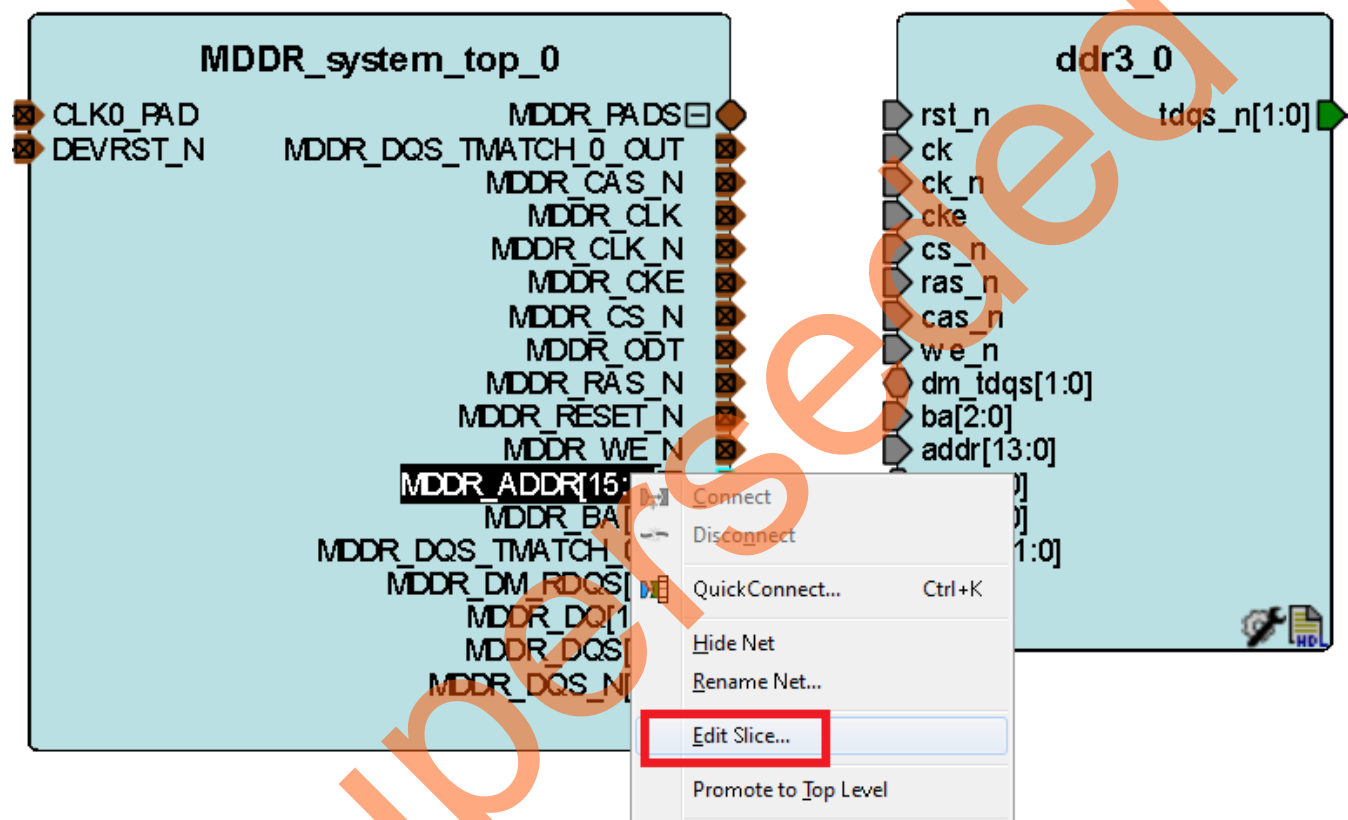
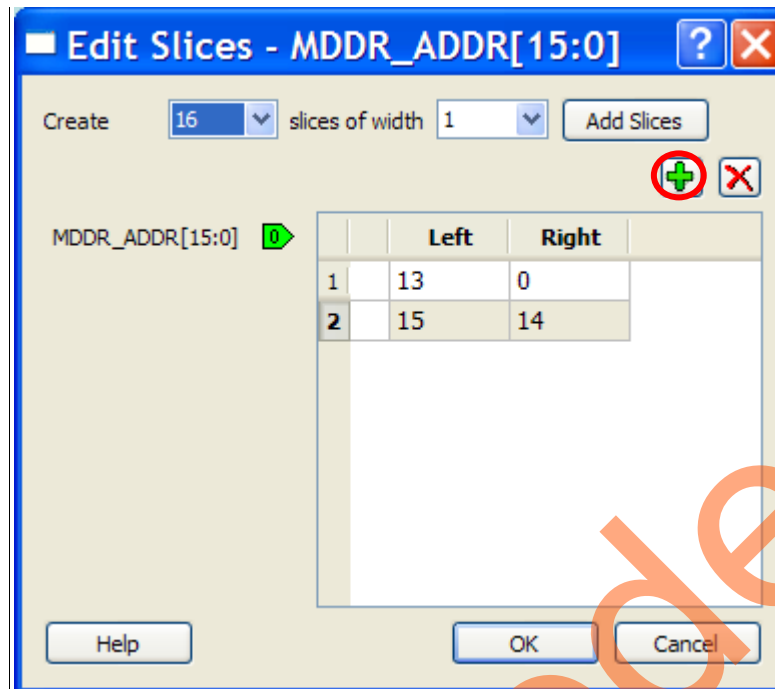

Figure 24. Creating a Bus Slice
Figure 25. Edit Slices Dialog Box
- Right-click the bus and select **Edit Slice**, as shown in Figure 24. The dialog box is displayed, as shown in Figure 25.
- Click  icon (circled in Figure 25) to add a slice. Since you need to add two slices, click  icon twice. Then add the slices, as shown in Figure 25.